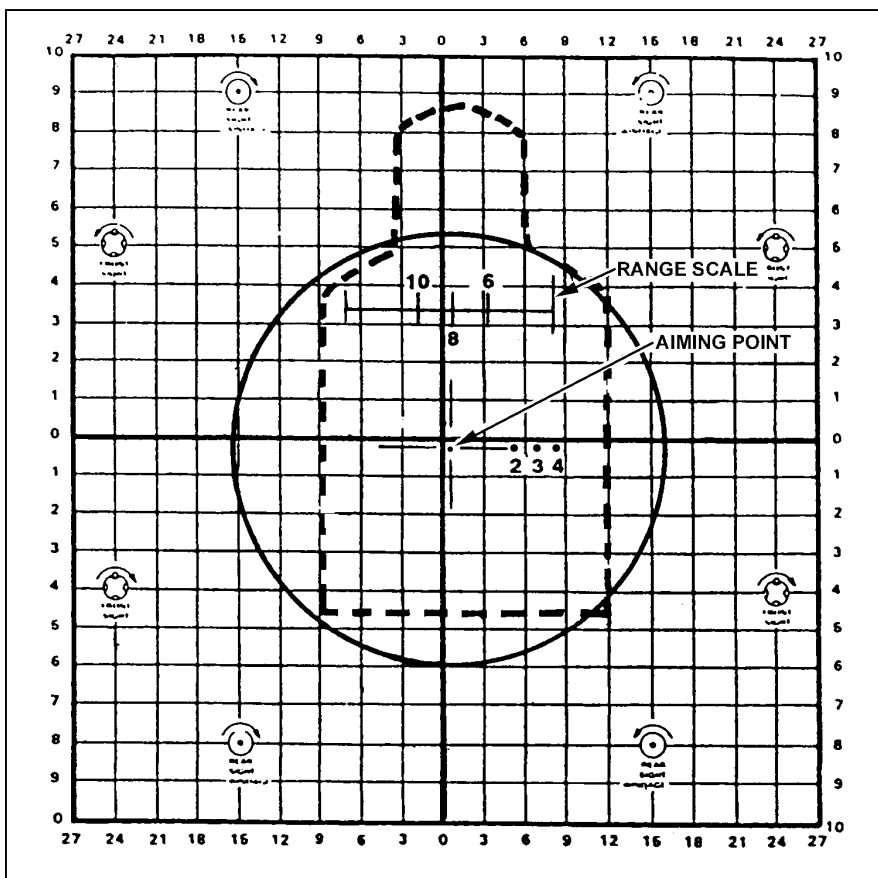

Figure G-62. Reticle aiming point, target aiming point and shot group.
(3) *Confirming the Boresight.* To confirm the boresight, the gunner centers and affixes a 25-meter (M16A2) zero target to the back of a basic machine gun poster target. This provides a large, clear surface for identifying the strike of the round. Then, he emplaces the target 10-meters from the firing position. The gunner places the reticle aiming point on the 25-meter zero target aiming point (Figure G-62) and fires a single round. If the round impacts anywhere near the aiming point, he fires two more rounds to establish his group.